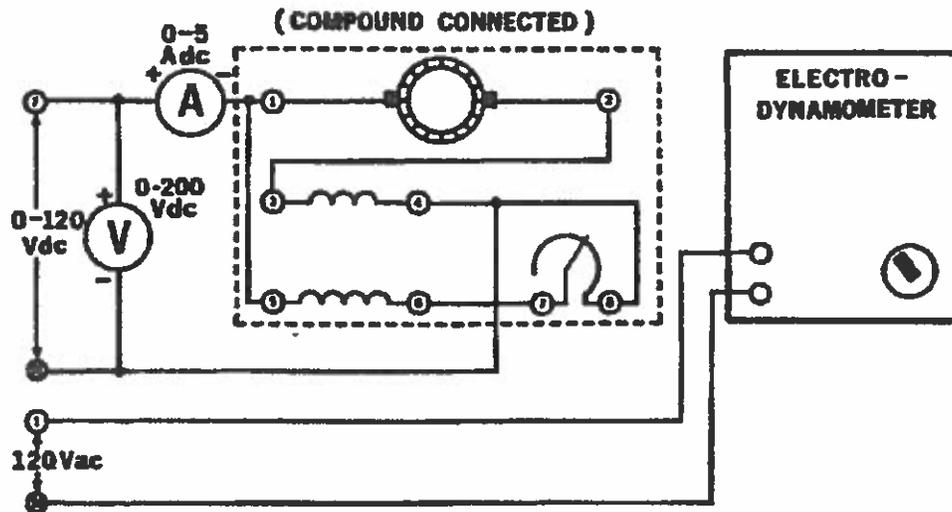

Figure 26-2.
- 4. Connect the shunt field, in series with the rheostat, to terminals 1 and 4 as shown in Figure 26-2.